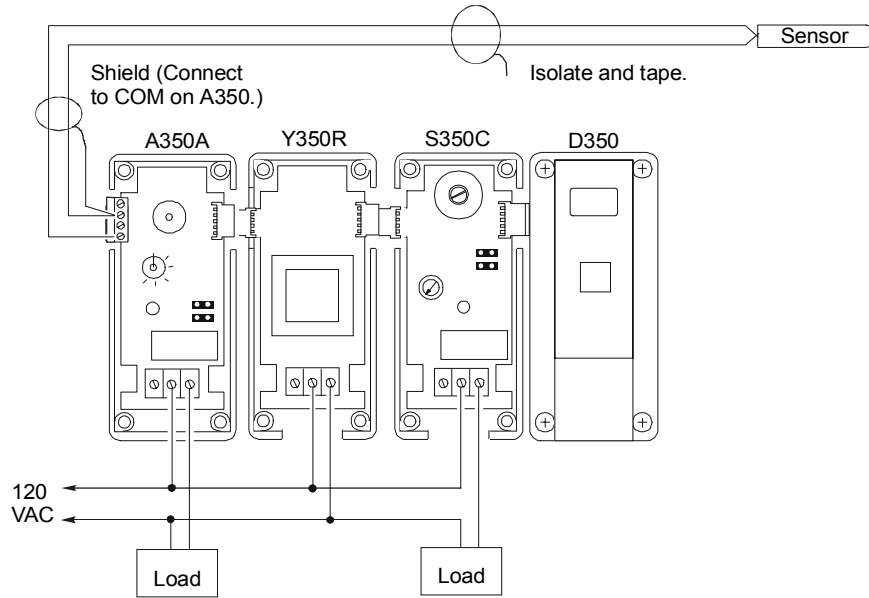

Figure 5: Typical Wiring Diagram for an S350C, Y350R, and A350 Temperature Control
- Consult Figures 5 and 6 for proper wiring and terminal designations.